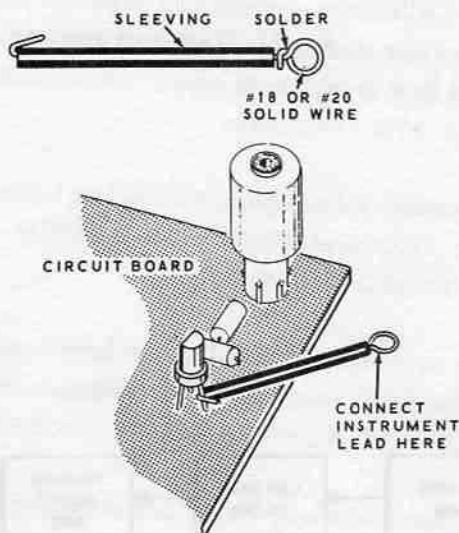

FIGURE 4-8
NOTE: Special connector clips are available from any radio-TV parts supply house for making connections to parts mounted on circuit boards. However, simple hook-type connectors may be constructed using a short length of solid (approximately #18) hookup wire covered with insulating sleeving as shown in Figure 4-8. Connect the test instrument leads between the free end of the connector and chassis ground.
Refer to Figures 4-8 and 4-9 (fold-out from Page 177) for the following steps.
- () Place a length of sleeving on one lead of a .1 μ fd capacitor. Then bend the exposed wire back over the sleeving to provide a hook similar to that shown in Figure 4-8.
Refer to Figures 4-8 and 4-9 for the following steps.